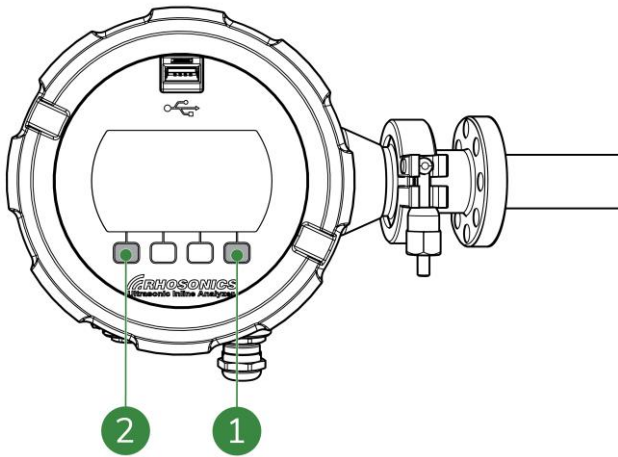

Figure 6-4: SDM reboot
1. Press the two outer buttons (Figure 6-4, pos. 1 and pos. 2) simultaneously for two seconds.